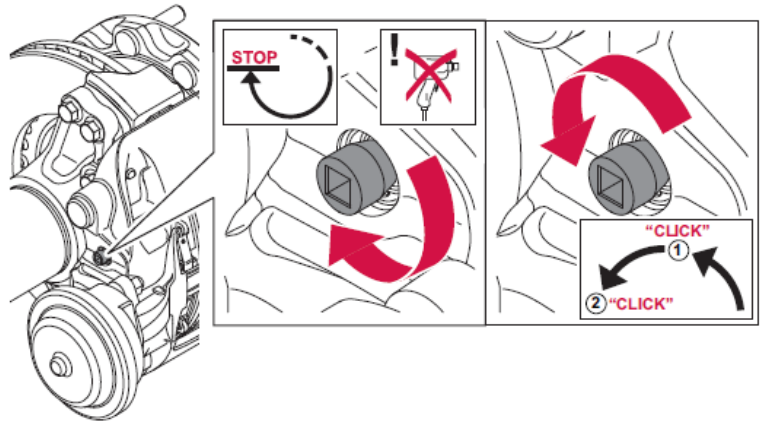

Figure 9.1. Initial brake pad setting
2. Then turn the reset shaft anti-clockwise by 2 clicks, see figure 9.1. This procedure is the initial brake pad setting.